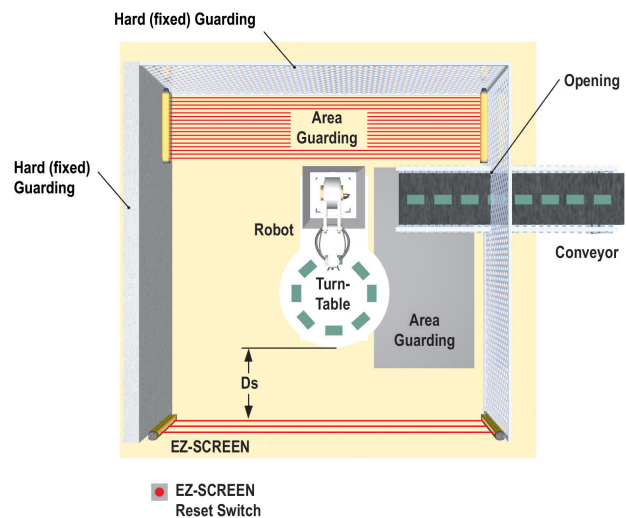

Figure 11. An example of supplemental safeguarding
Additionally, the hazard cannot be accessible by reaching around, under, or over the defined area. To accomplish this, supplemental guarding (mechanical barriers, such as screens or bars), as described by ANSI B11.19 safety requirements or other appropriate standards, must be installed. Access will then be possible only through the defined area of the EZ-SCREEN LPM System or through other safeguarding that prevents access to the hazard (see *Figure 11* on page 23).
*Figure 11* on page 23 shows an example of supplemental safeguarding inside a robotic work cell. The EZ-SCREEN LPM, in conjunction with the hard (fixed) guarding, is the primary safeguard. Supplemental safeguarding (such as a horizontal-mounted safety light screen as an area guard) is required in areas that cannot be viewed from the reset switch (for